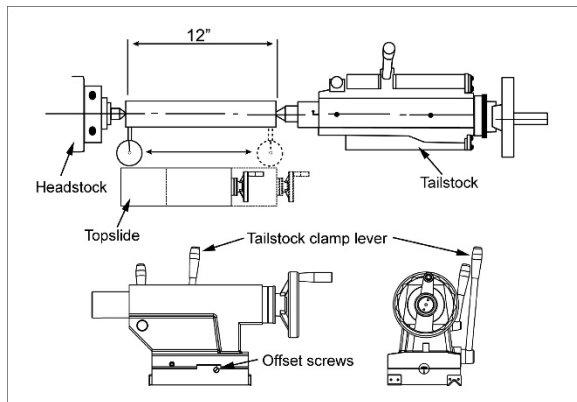

Figure 11-6
2. Fit a 12" ground, center-drilled, steel bar between centers of headstock and tailstock (Figure 11-6).